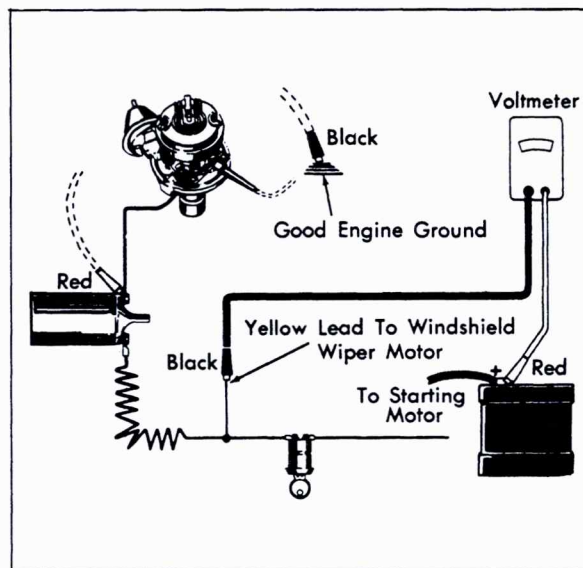

Fig. 6-50 Ignition Primary Circuit
2. Connect test leads as shown in Fig. 6-50.
9. Remove voltmeter leads and place them across the primary wires from coil to distributor as shown by dotted leads in Fig. 6-50. Voltmeter should read less than .1 volt.